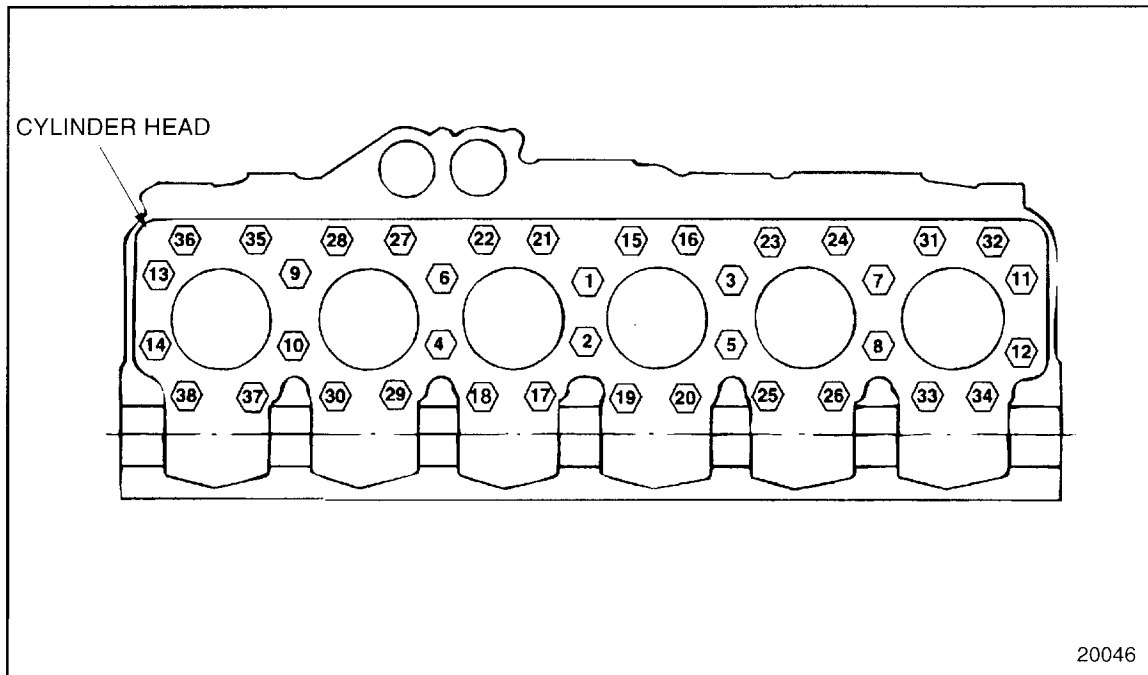
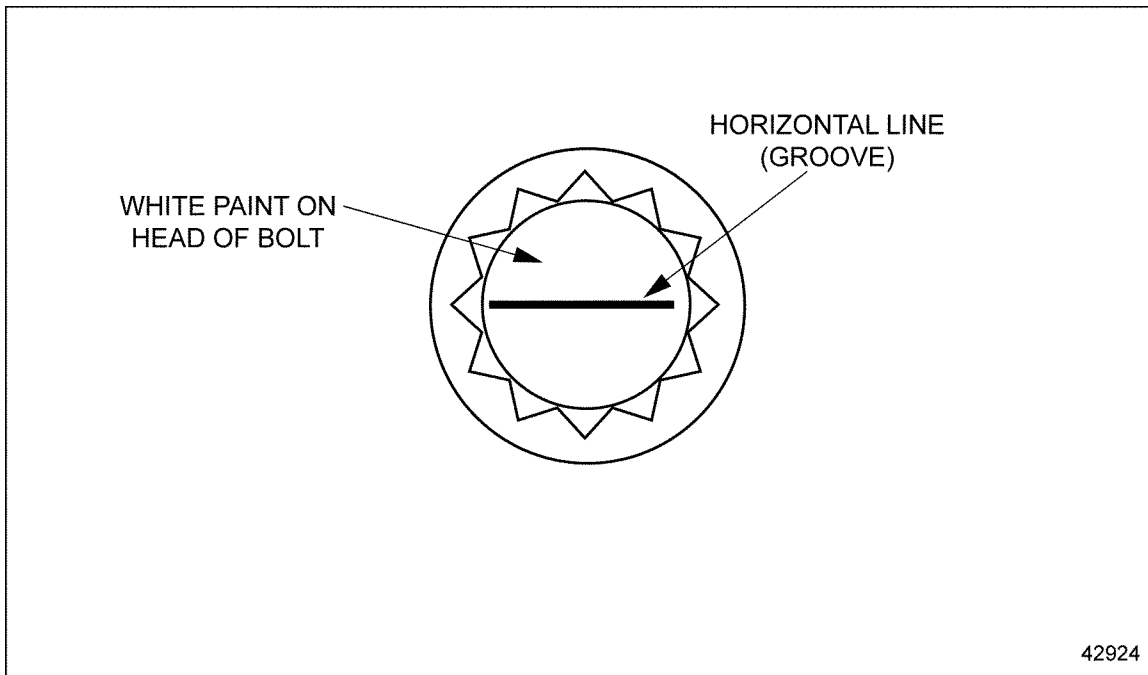

Figure 1-46 **Cylinder Head Bolt Tightening Sequence**
Figure 1-46a **Bolt Identification For Series 60 Engines Built After September 2002**
6. Torque the head bolts to 250-285 N·m (185-210 lb·ft) in the following sequence. See Figure 1-46. After September 2002 a new cylinder head bolt will be used for all Series 60 Off-Highway and On-Highway engines. The new bolt will be identified with white paint and groove on top of bolt. See Figure 1-46a. Torque the new head bolts to 298 N·m (220 lb·ft). There is no change to the procedure other than the new torque value. The new head bolt can be used with the former cylinder head gaskets, the former head bolts cannot be used with the new head gasket. Former and new bolts must not be mixed.